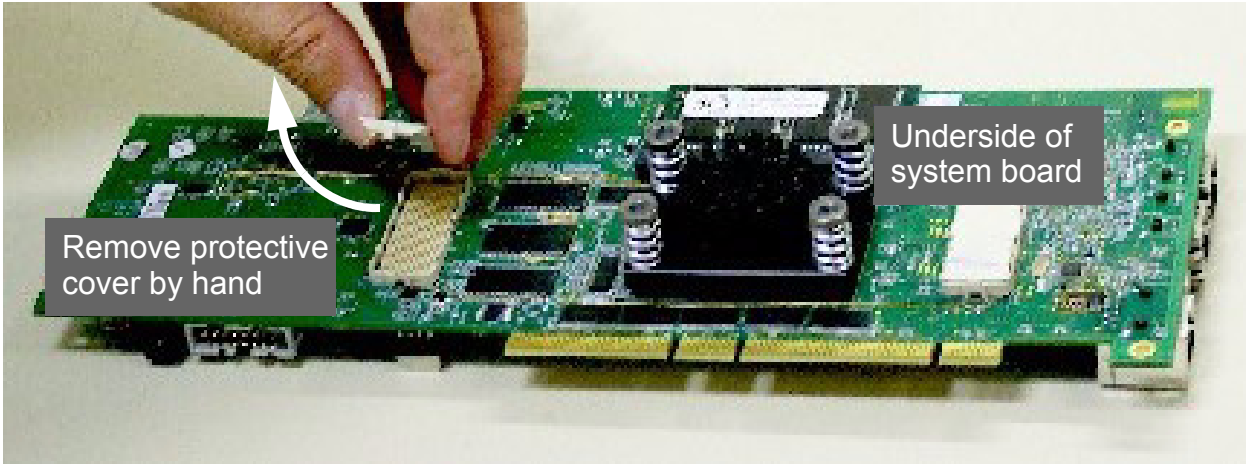

Figure 2-4 Remove Protective Covers from 300-pin connectors (underside of MPC8349E MDS Processor Board shown)
1. Remove protective covers from the 300-pin connectors on the bottom side of the processor board (See Figure 2-4).